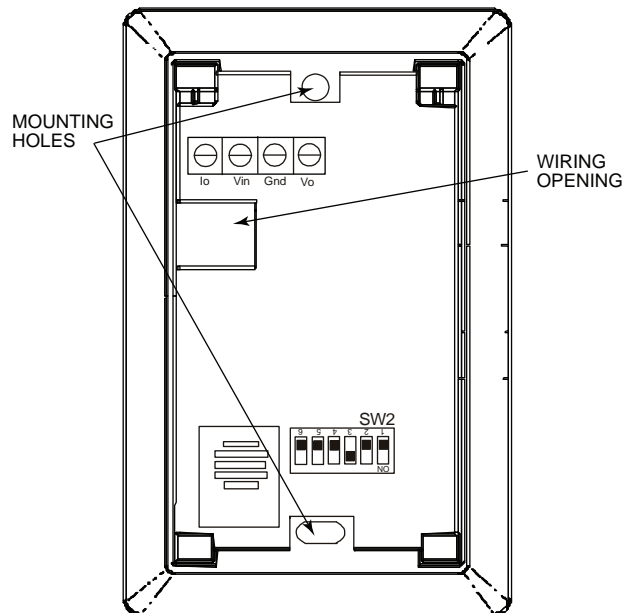

Fig. 20 — Humidity Sensor Installation
If the sensor is installed directly on a wall surface, install the humidity sensor using 2 screws and 2 hollow wall anchors (field-supplied). Do not over tighten screws. See Fig. 20.
1. At the sensor, remove 4-in. of jacket from the cable. Strip 1/4-in. of insulation from each conductor. Route the cable through the wire clearance opening in the center of the sensor. See Fig. 20.